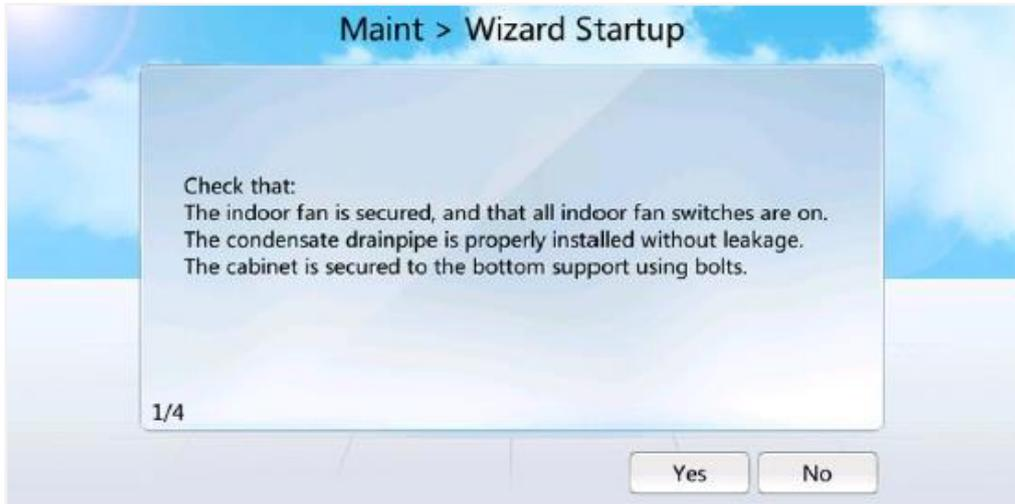

Figure 3-2 Checking before startup
Step 2 Tap Yes. The checking before startup screen is displayed, as shown in Figure 3-2.